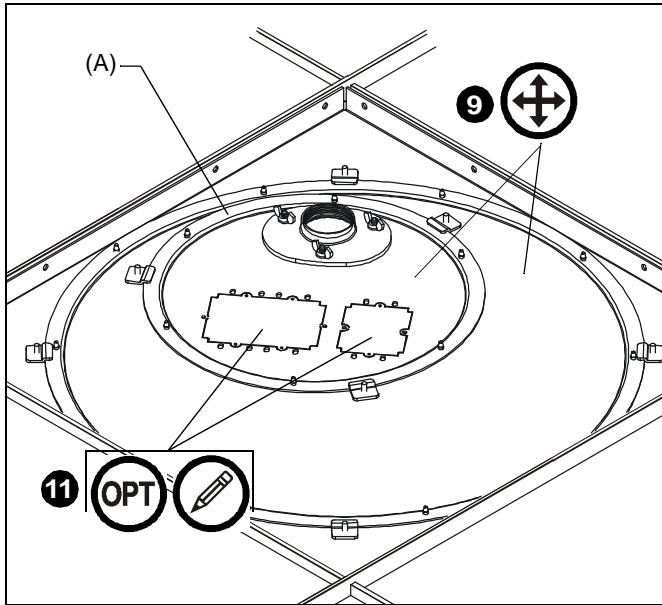
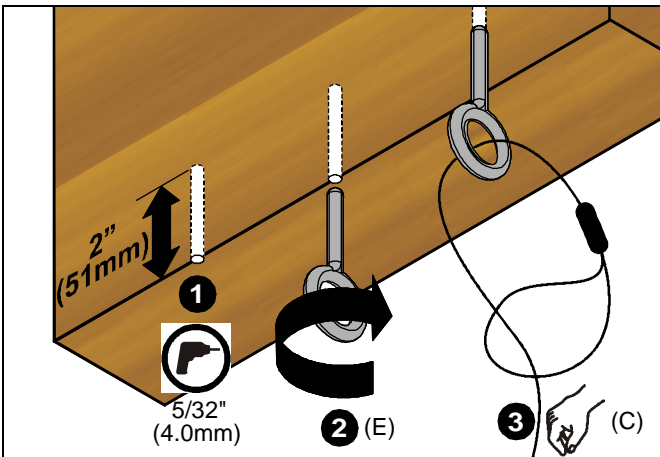

Figure 4
Figure 8
9. Rotate large and small circular plates to position extension column support to the following location (See Figure 4):
Mark location of electrical cutout on ceiling tile with pencil. (See Figure 4)
- Drill 5/32" (4.0mm) diameter x 2" (51mm) deep hole at each marked cable anchor support location. (See Figure 8) Remove debris from hole.
- Fully thread eye lag (E) into each hole. (See Figure 8)
- Route end of cable (C) through eye lag (E) and then through cable loop. (See Figure 8) Repeat for remaining support locations.
- Reinstall CMS445 assembly (A).
- Install four clamp brackets (B) with four Phillips head 10-24 x 5/8" screws (G). (See Figure 4) Ensure brackets (B) engage flanges on CMS445 assembly (A) and primary (1-1/2" (38mm) high) rails of ceiling framework.